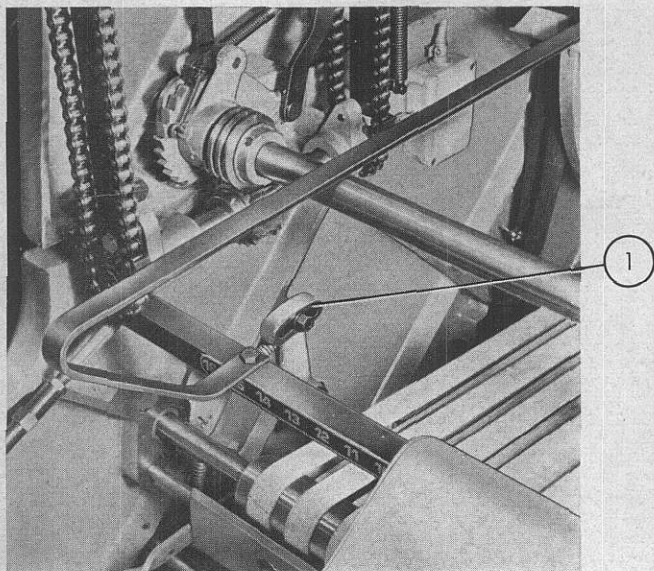

Fig. 24
- a) loosen the tape stretching rod by means of the nut locking the supporting lever inside the right hand shoulder (fig. 24);